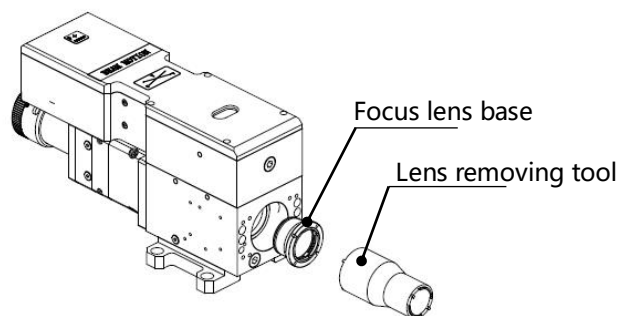

Fig 6.6 - Remove and install the focusing lens
- As shown in figure 6.6, use a lens removing tool to remove the focus lens mount.